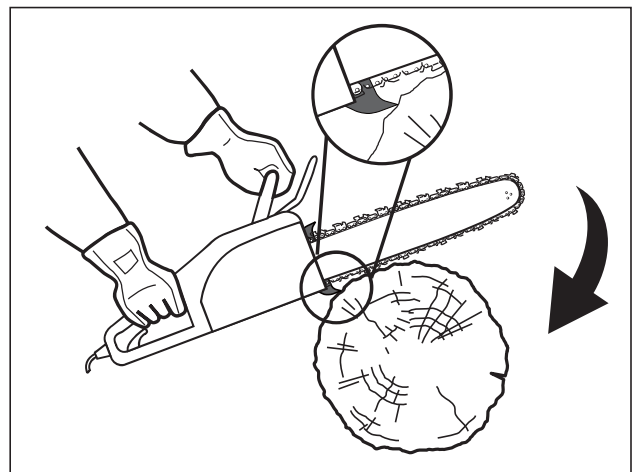

Fig. 19
5. Ensure the saw chain is running at full speed before it makes contact with the wood. Use the spiked bumper to secure the product onto the wood before starting to cut and use it as a leverage point while cutting(Fig.19).